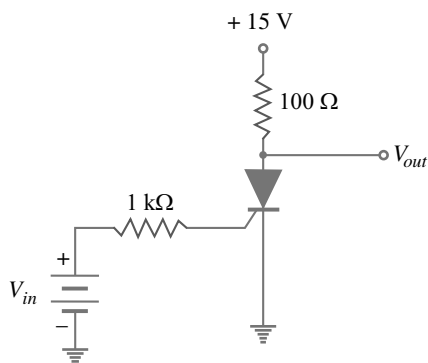

Fig. 18.35
9. The SCR in Fig. 18.35 has  $V_{GT} = 0.75 \text{ V}$ ,  $I_{GT} = 7 \text{ mA}$  and  $I_H = 6 \text{ mA}$ . What is the output voltage when the SCR is off ? What is the input voltage that triggers the SCR ? If  $V_{CC}$  is decreased until the SCR opens, what is the value of  $V_{CC}$  ? [15 V ; 7.75 V ; 1.3 V]